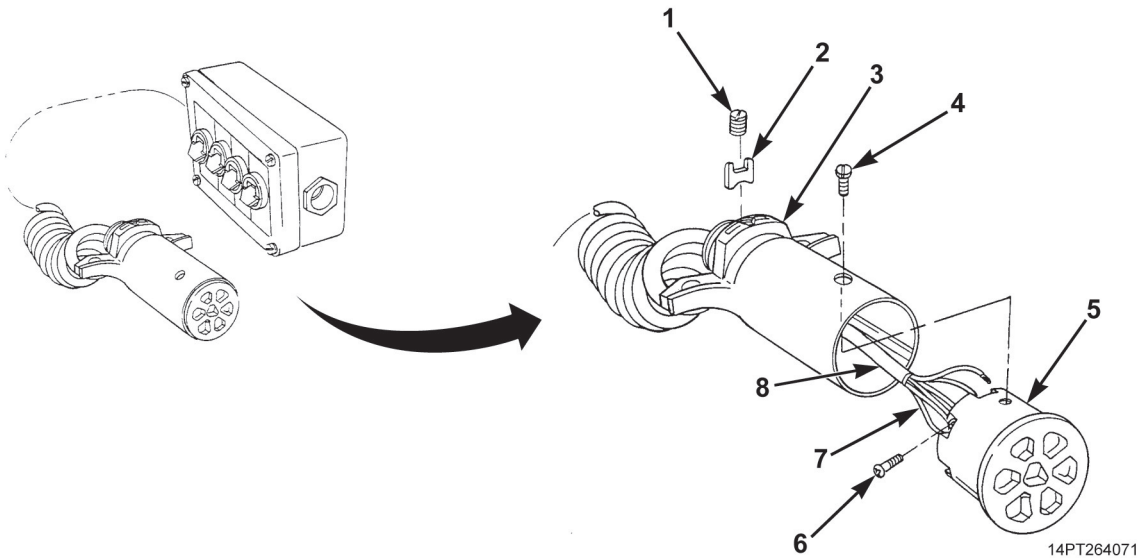

Figure 8. MCS Remote Control Plug Assembly.
8. Install jumper wire (Figure 8, Item 7) on connector (Figure 8, Item 5).
9. With cable (Figure 8, Item 8) through connector housing (Figure 8, Item 3), install connector (Figure 8, Item 5) on wires of cable with seven screws (Figure 8, Item 6). Push connector into connector housing.
10. Install clamp (Figure 8, Item 2), screw (Figure 8, Item 1), and screw (Figure 8, Item 4).